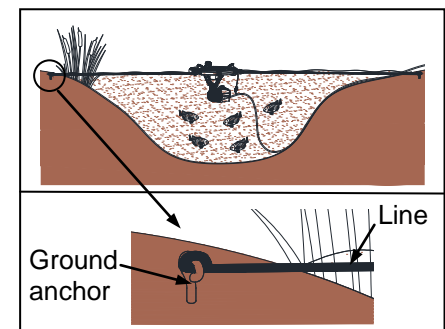

Fig. 7
- Place the fountain into the water and tether it with supplied line and ground anchors into desired location. Fig. 7